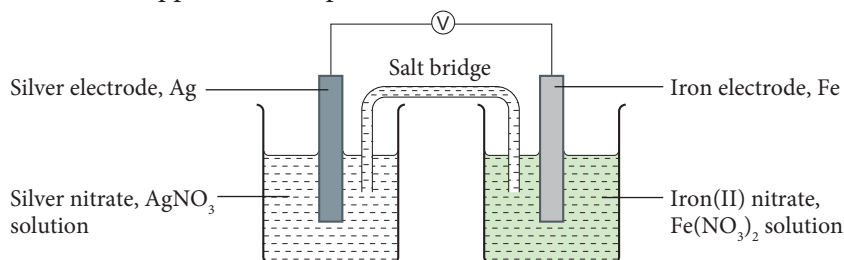

Figure 1.19
1. Figure 1.19 shows an apparatus set-up for a voltaic cell.
- (a) Based on Figure 1.19, and referring to the standard electrode potential of a half-cell: